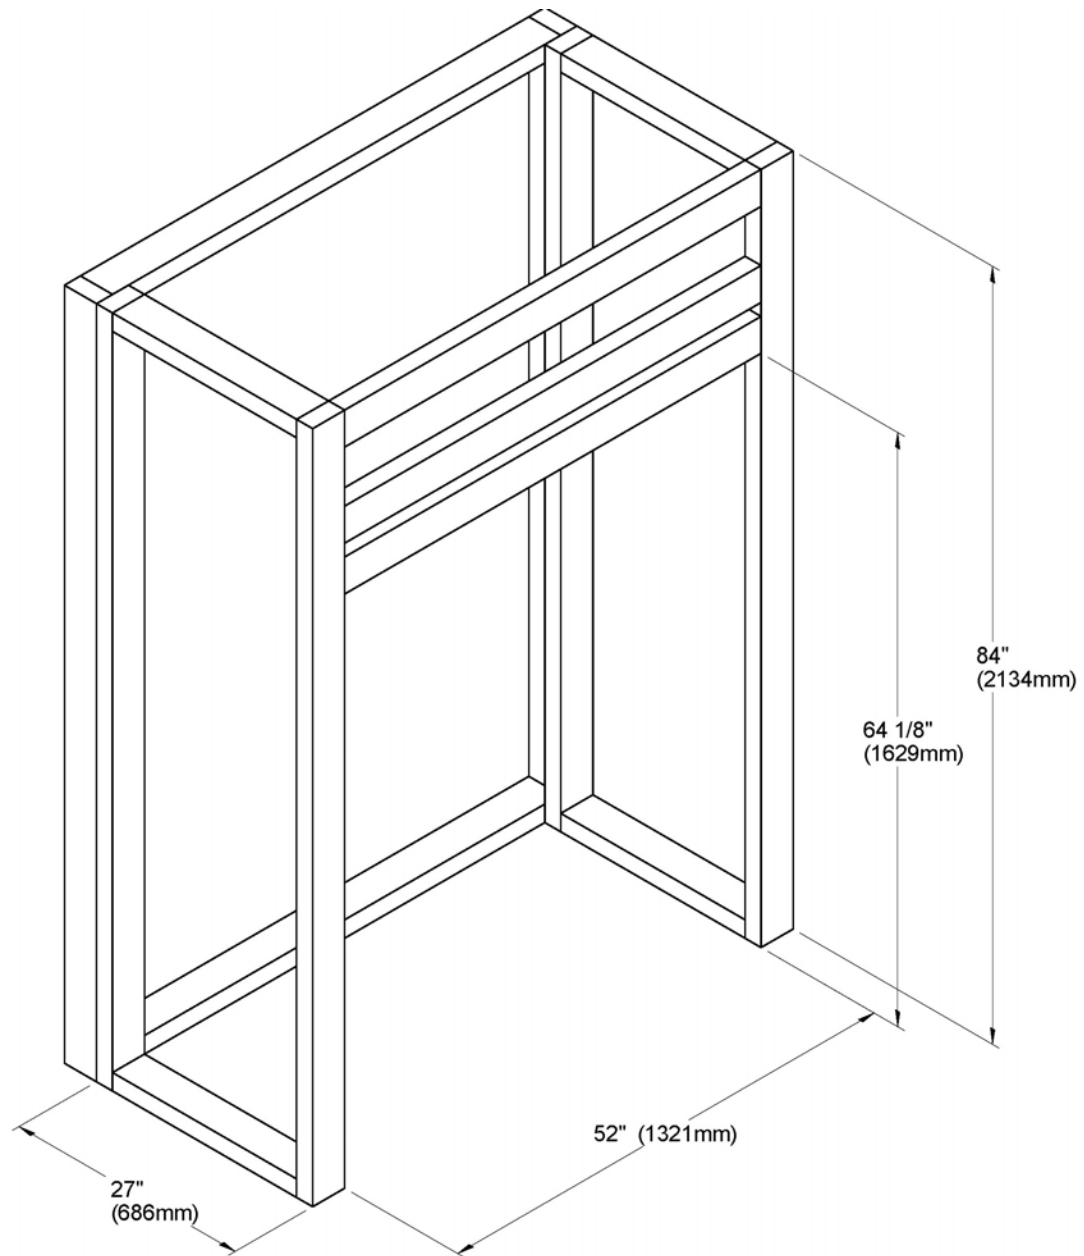

Figure 15
B. Frame the fireplace with vertical studs on each side of the fireplace running from floor to ceiling (see Figure 15). Position the studs back from the front edge of the fireplace, leaving a space the thickness of the facing material so that the facing can be installed flush with the fireplace facing (within limitations of Figure 15). Frame headers between the vertical studs only as follows: